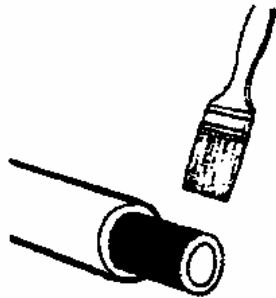

Figure 4. Applying Sealant
h. Using a paint brush, apply a uniform coating of sealant MIL-S-45180, Type II to exposed wire braid (Figure 4).
- e. Using a paint brush, apply a uniform coating of sealant MIL-S-45180, Type II to exposed wire braid (Figure 4).